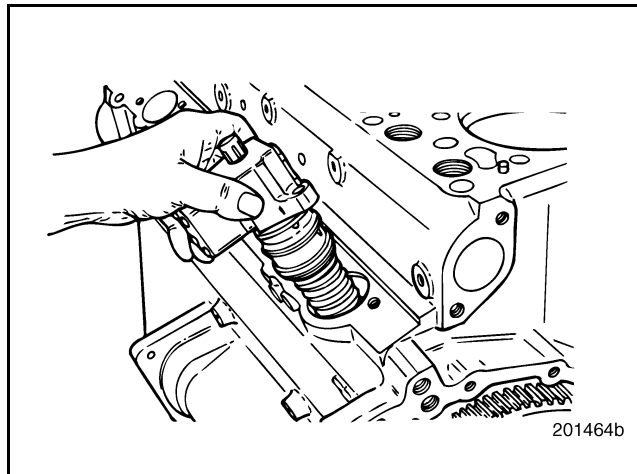

Figure 296 — Unit Pump Installation
2. Generously lubricate the EUP O-rings with clean engine oil and install the No. 1 EUP into the cylinder block (Figure 296).